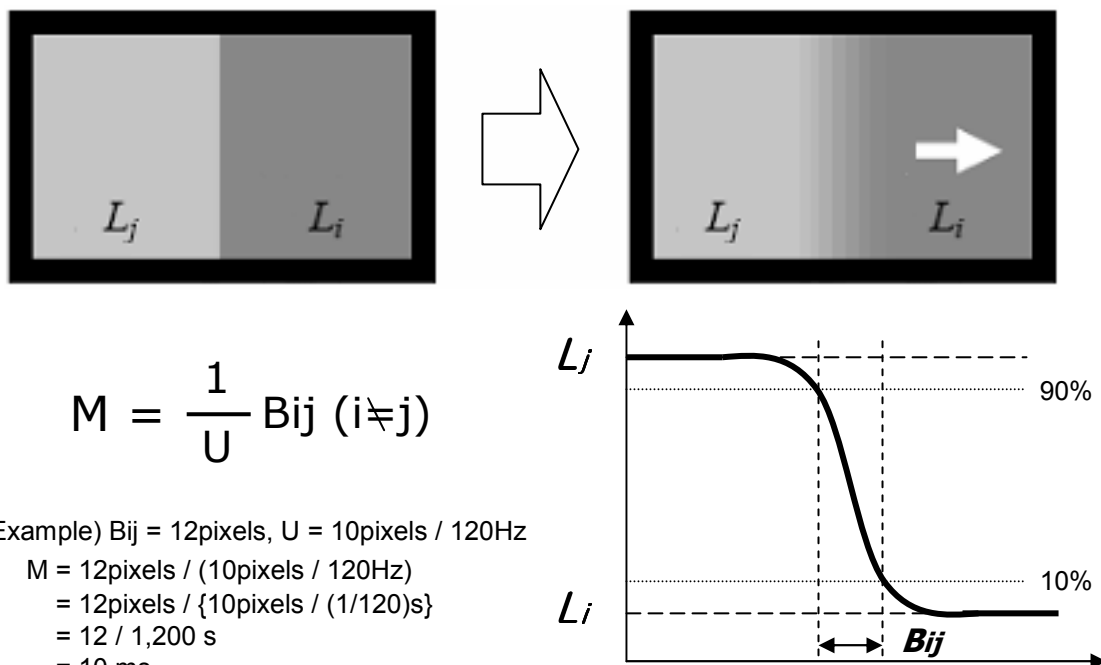

FIG. 4 MPRT
5. MPRT is defined as the 10% to 90% blur-edge width Bij (pixels) and scroll speed U (pixels/frame)at the moving picture. For more information, see FIG 4